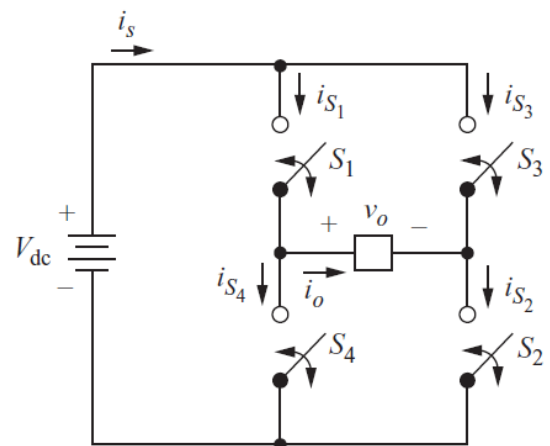

Figure Q 4B
- 4B. The square-wave inverter shown in figure Q 4B has $V_{dc} = 125$ V, an output frequency of 60 Hz, and an inductive load with $R = 12.5\Omega$ and $L = 30$ mH. Determine the expression for output voltage and sketch the currents in the load, and the source.